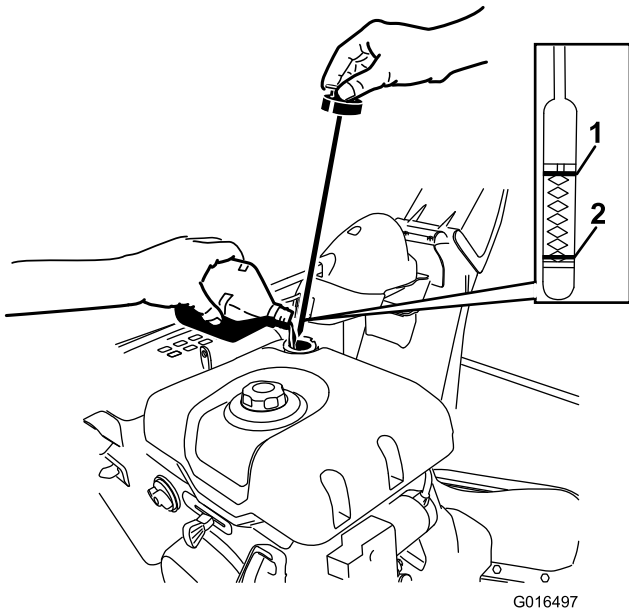

Figure 44
2. Remove the dipstick and check the oil level (Figure 44). If the oil level is below the Add mark on the dipstick, add oil. Refer to Filling the Engine with Oil.